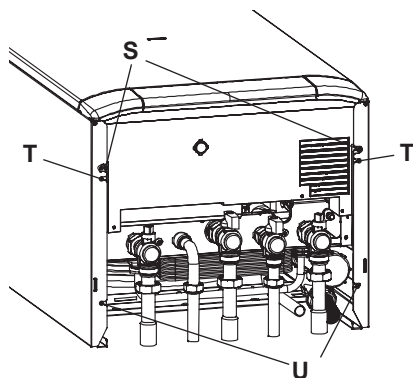

Fig. 6.12
- Remove the screws S and T (Fig. 6.12).